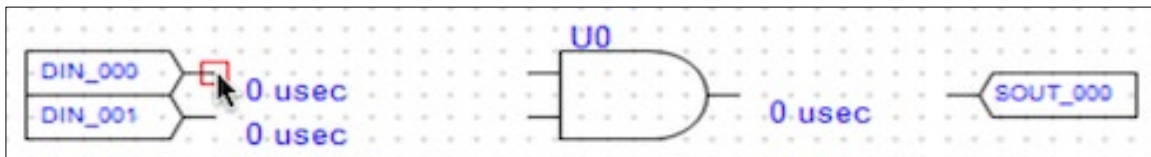

Figure 68 - Starting a New Connection
- 1) Left-click the first block's pin. A large red rectangle is shown if the cursor is on a valid connection point (Figure 68 - Starting a New Connection).